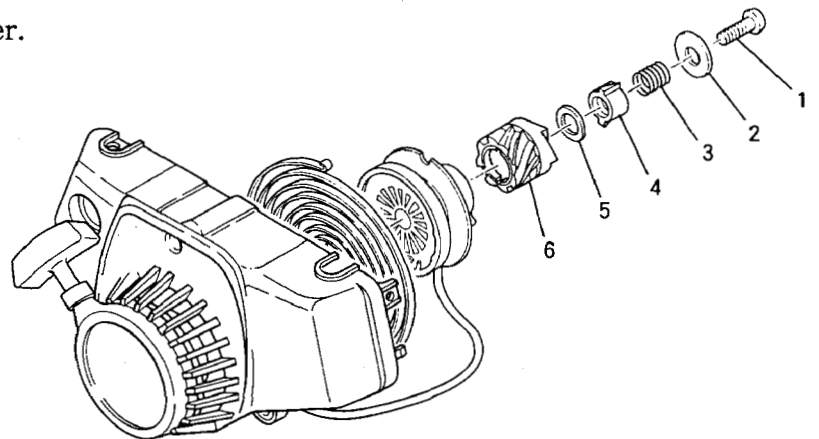

Fig. 23
(7) Reassemble parts in reverse order of disassembly. (See Fig. 23.)